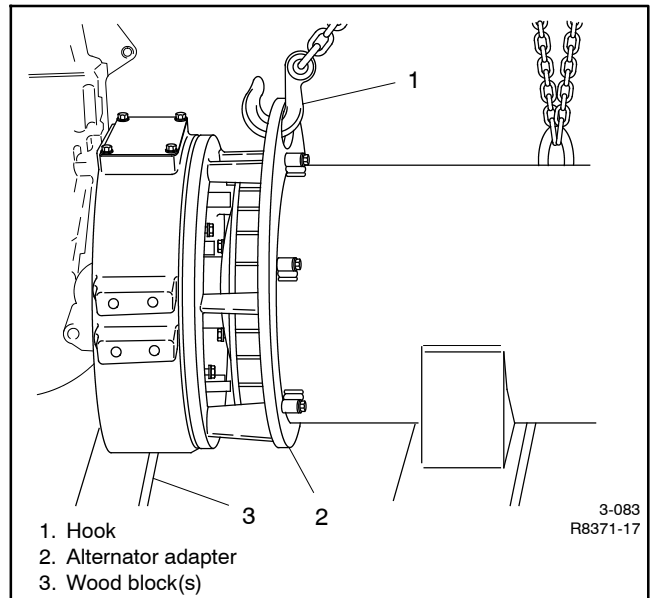

Figure 11-7 Hoisting Alternator
14. Suspend the alternator at both ends with hooks in lifting eyes. Use a hoist to raise the alternator end off the vibromounts. See Figure 11-7.
15. Support the engine by placing wood blocks under the flywheel housing. Lower the alternator end until the alternator flywheel housing rests on the wood blocks. See Figure 11-7.